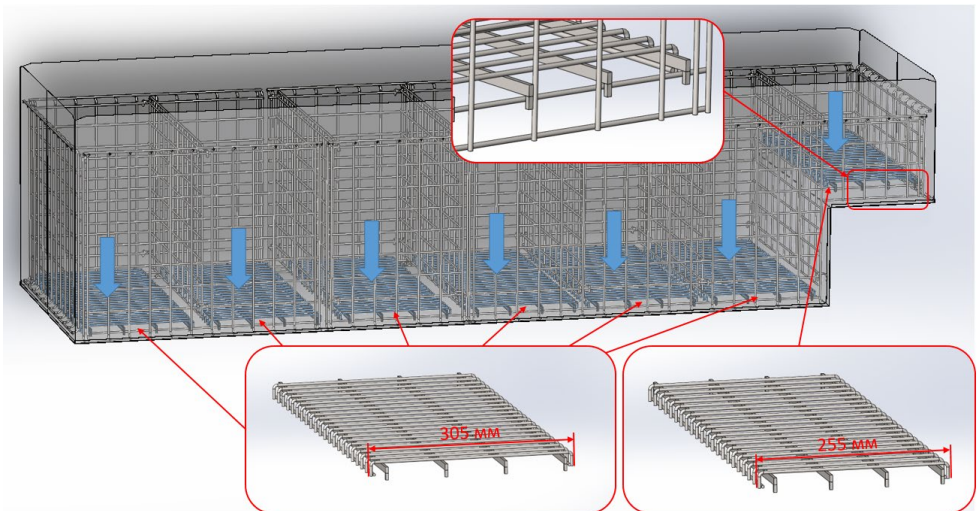

Figure 4.1.4. Horizontal bars
4. Horizontal grids are installed (Fig. 4.1.4) . They are adjustable in height.